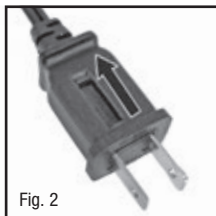

Fig. 2
- Carefully remove the blown fuse and snap a new fuse into place. **To Reduce the Risk of Fire**, replace fuse only with 2.5 Amp, 125 volt fuse. Fully close the fuse door by sliding back into place. (Fig. 2) Discard the blown fuse. The plug should now be ready for normal use.